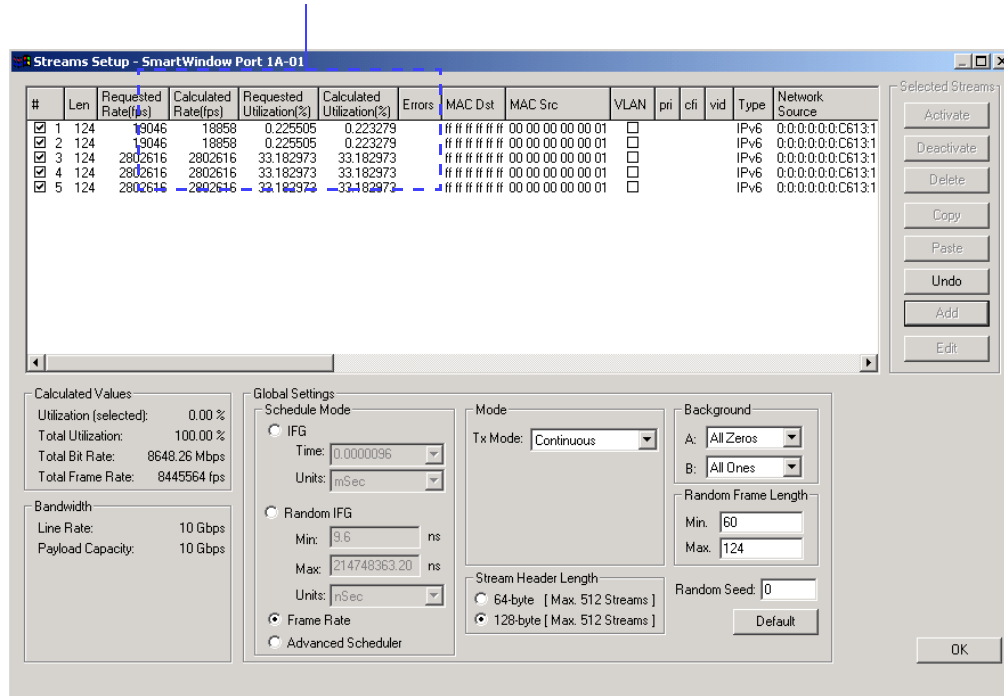

Figure 8-45. Bandwidth Allocation with Frame-based Test Traffic
In the streams list, the *Calculated Rate* and *Calculated Utilization* fields adjust as streams are added or the settings for any stream are modified. Similarly, the *Calculated Values* pane at the bottom of the window adjusts to reflect the settings. *Figure 8-45* presents an example. Here, three rate-based streams have been added, and each has been allocated about 33% of the total available bandwidth.
- 2 Click the **Add** button in the *Selected Streams* pane. (See Figure 8-45 on page 397.)